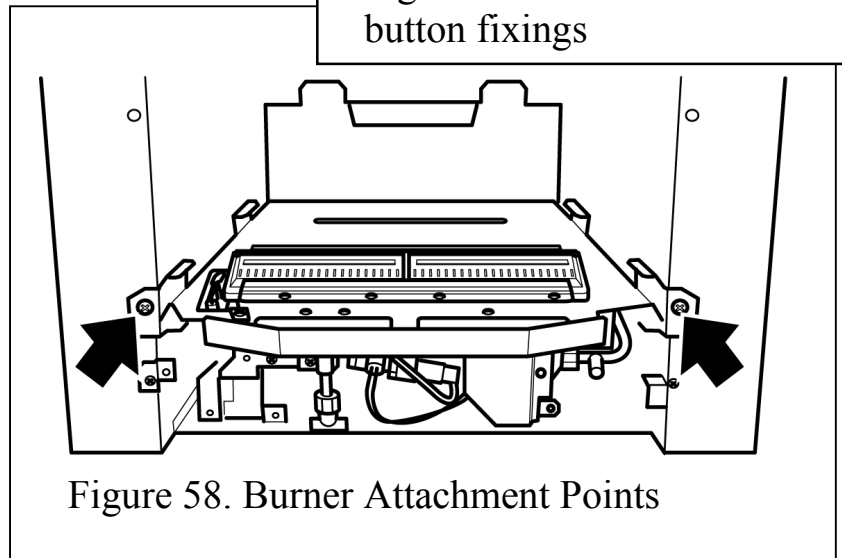

Figure 58. Burner Attachment Points
4. Detach the burner unit from the convection box by removing two screws – See figure 58.